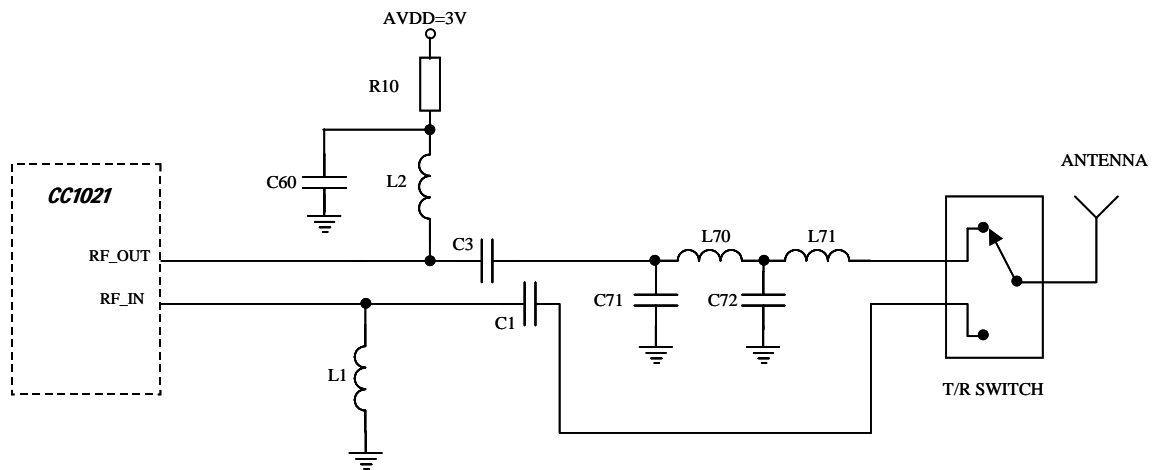

Figure 25. Input/output matching network
When designing the impedance matching network for the **CC1021** the circuit must be matched correctly at the harmonic frequencies as well as at the fundamental tone. A recommended matching network is shown in Figure 25. Component values for various frequencies are given in Table 21. Component values for other frequencies can be found using the SmartRF® Studio software.
As can be seen from Figure 25 and Table 21, the 433 MHz network utilizes a T-type filter, while the 868/915 MHz network has a  $\pi$ -type filter topology.
**Table 21. Component values for the matching network described in Figure 25. (DNM = Do Not Mount)**